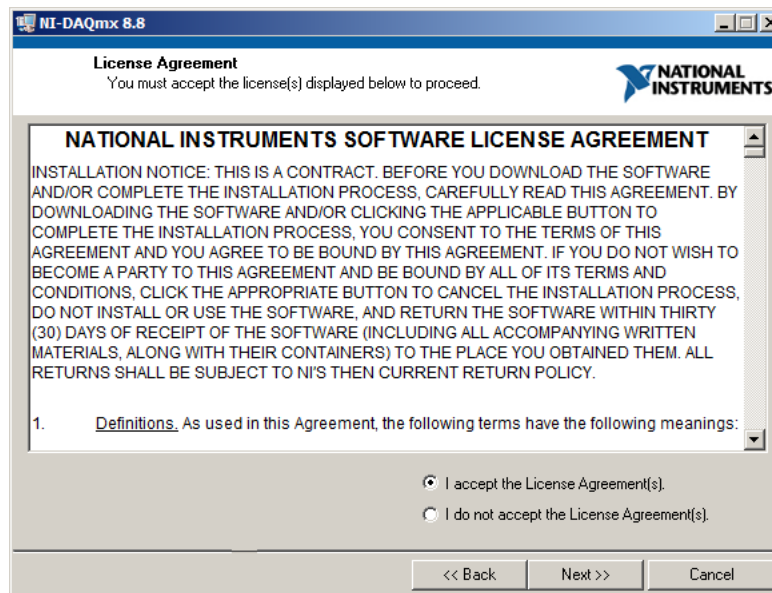

Figure A.5: NI-DAQ licence window.
- Follow through the installer, accepting the licence agreements and NI drivers as shown in Figures A.5–A.7.